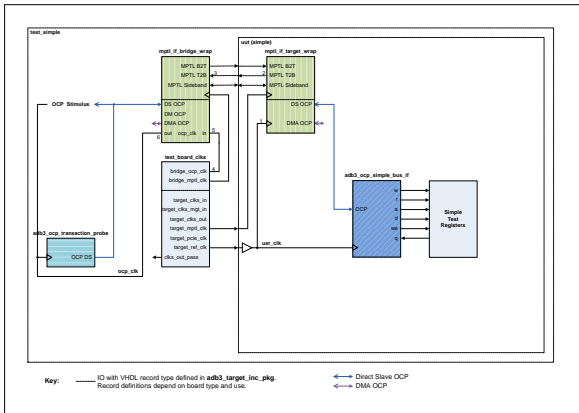

Figure 10: Simple Design Testbench and Top Level Block Diagram (MPTL)
**Figure 10** shows the testbench and embedded **simple** FPGA design (MPTL).
- The testbench OCP clock `ocp_clk_out` path is shown in Figure 10 as the route consisting of points 1, 2, 3 and 6.
- The testbench OCP clock `ocp_clk_out` path is shown in Figure 10 as the route consisting of points 4, 5 and 6.